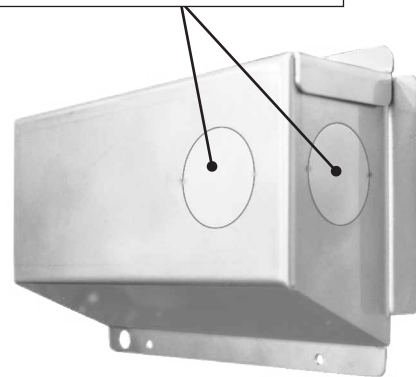

Fig. 26-2 Junction box knockouts
1. Remove the junction box located on the rear of the unit. Select and remove a knockout from the junction box that will best suit your electrical setup. See Fig. 26-2.